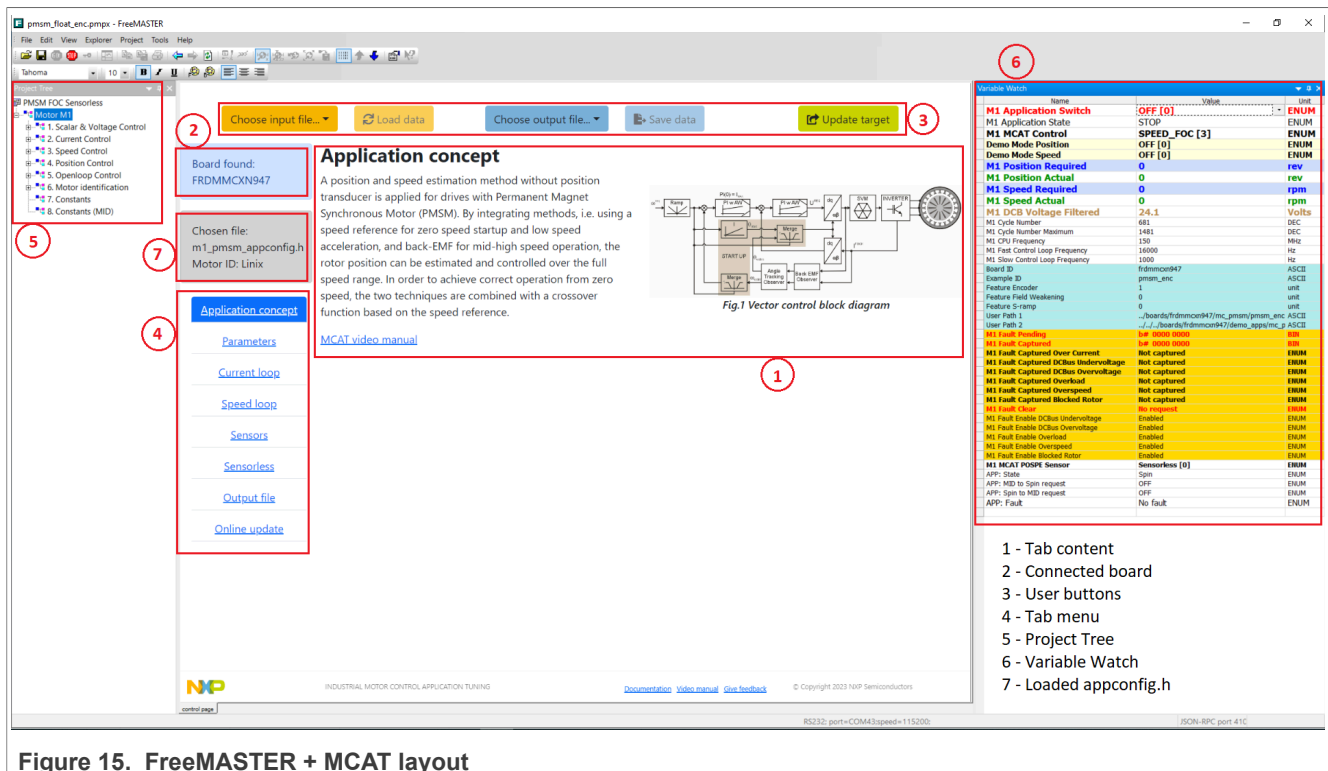

Figure 15. FreeMASTER + MCAT layout
The PMSM sensor/sensorless FOC application can be easily controlled and tuned using the Motor Control Application Tuning \(MCAT\) plug-in for PMSM. The MCAT for PMSM is a user-friendly page, which runs within the FreeMASTER. The tool consists of the tab menu and workspace as shown in Figure 15. Each tab from the tab menu (4) represents one submodule which enables tuning or controlling different application aspects. Besides the MCAT page for PMSM, several scopes, recorders, and variables in the project tree (5) are predefined in the FreeMASTER project file to further the motor parameter tuning and debugging simplify.